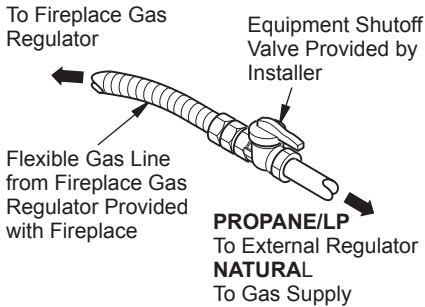

Figure 25 - Attaching Flexible Gas Line to Equipment Shutoff Valve
4. Apply pipe joint sealant lightly to male threads of gas connector attached to flexible gas line/equipment shutoff valve (see Figure 25, page 18).